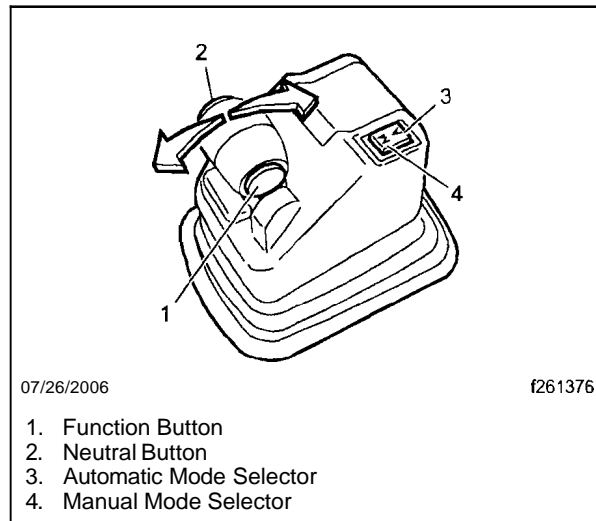

Fig. 3, Gear **Shift** Lever
- 17.3 Press and hold the N (neutral) and F (function) buttons on the gear shift. See Fig. 3. Turn the ignition to ON.